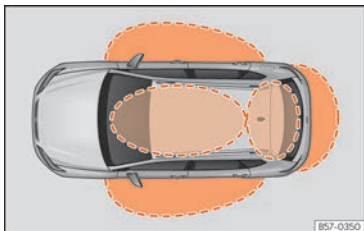
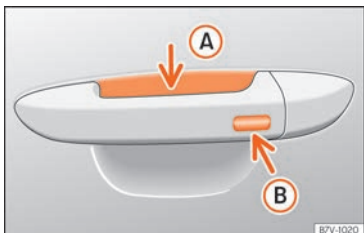

Fig. 80 Keyless Access: proximity zones.
Fig. 81 Door handle: sensor surfaces
» **Fig. 81**
Keyless Access is a key-free locking and ignition system to unlock and lock the vehicle without actively using its key. To do this, all that is required is to have a valid vehicle key in the detection area where you are attempting to access the vehicle » **Fig. 80** and to touch one of the sensor surfaces on the door handles » **Fig. 81** or operate the *softtouch*/handle on the rear lid » **page 105** » **!**
If a valid key is in the proximity of the car, » **Fig. 80** the Keyless Access locking and starting system gives the key entry as soon as one of the sensor surfaces on the door handles is touched or the *softtouch*/handle on the rear lid is operated.
- Grip one of the front door handles. When you do this, you touch the sensor surface »» Fig. 81 (A) (arrow) of the handle and the vehicle unlocks.
- Touch (once) the locking sensor surface »» Fig. 81 (B) (arrow) on one of the front door handles. The door that is used must be closed.
- Touch (once) the sensor surface »» Fig. 81 (B) (arrow) on one of the front door handles. The vehicle locks with the "Safe" security system »» page 100. The door that is used must be closed.
- Touch (twice) the sensor surface »» Fig. 81 (B) (arrow) of one of the front door handles to lock the vehicle without activating the "Safelock" security system »» page 100.
When the vehicle is locked, the rear lid automatically unlocks on opening if there is a valid vehicle key in the proximity zone »» Fig. 80.
- Push the central locking button  on the remote control and touch the locking sensor surface of the driver door handle »» Fig. 81  within the following 5 seconds. Do not grasp the door handle; otherwise the vehicle will not unlock. Deactivation is also possible if the vehicle is locked through the driver's door lock.
To close all the electric windows and the sunroof using the **comfort function**, keep a finger for a few seconds on the locking sensor surface »» Fig. 81  (arrow) of the door handle until the windows and roof have closed.
The sensor surfaces on the door handles could engage if hit with a water jet or high pressure steam if there is a valid vehicle key in the proximity. If at least one of the electric windows is open and the sensor surface »» Fig. 81  (arrow) on one of the handles is activated continuously, all windows will close.